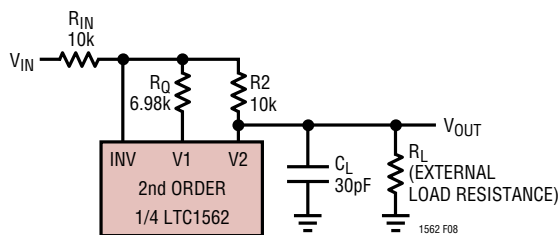

Figure 8. 100kHz,  $Q = 0.7$  Lowpass Circuit for Distortion vs Loading Test
**Distortion vs External Load Resistance ( $V_S = \pm 5V, 25^\circ C$ ) (Figure 8)**